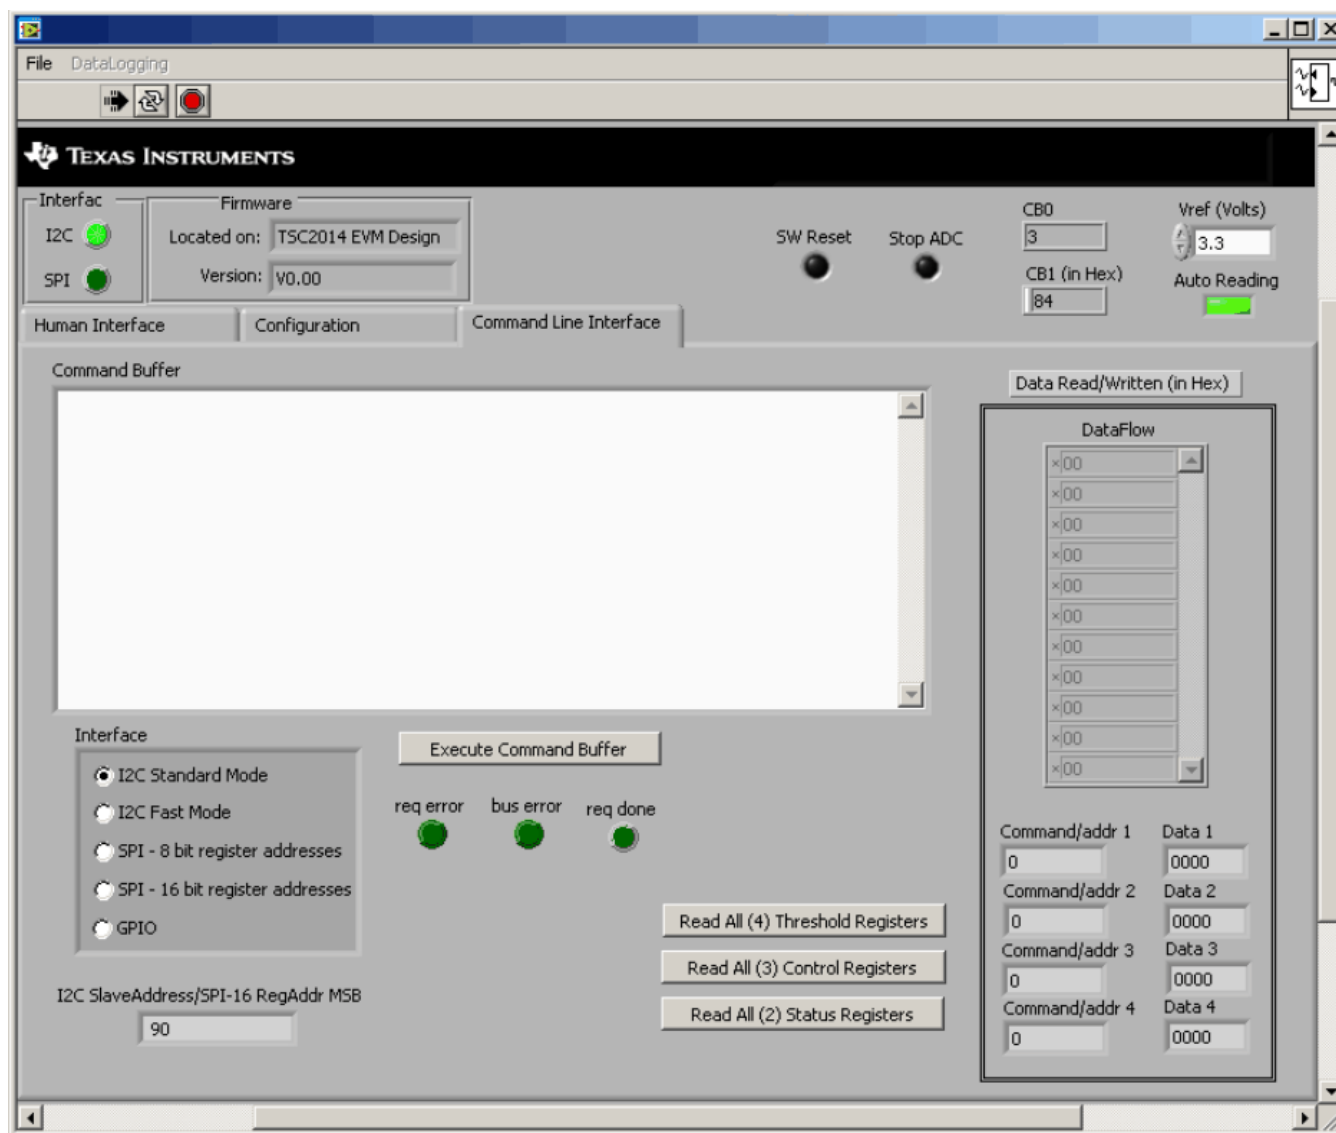
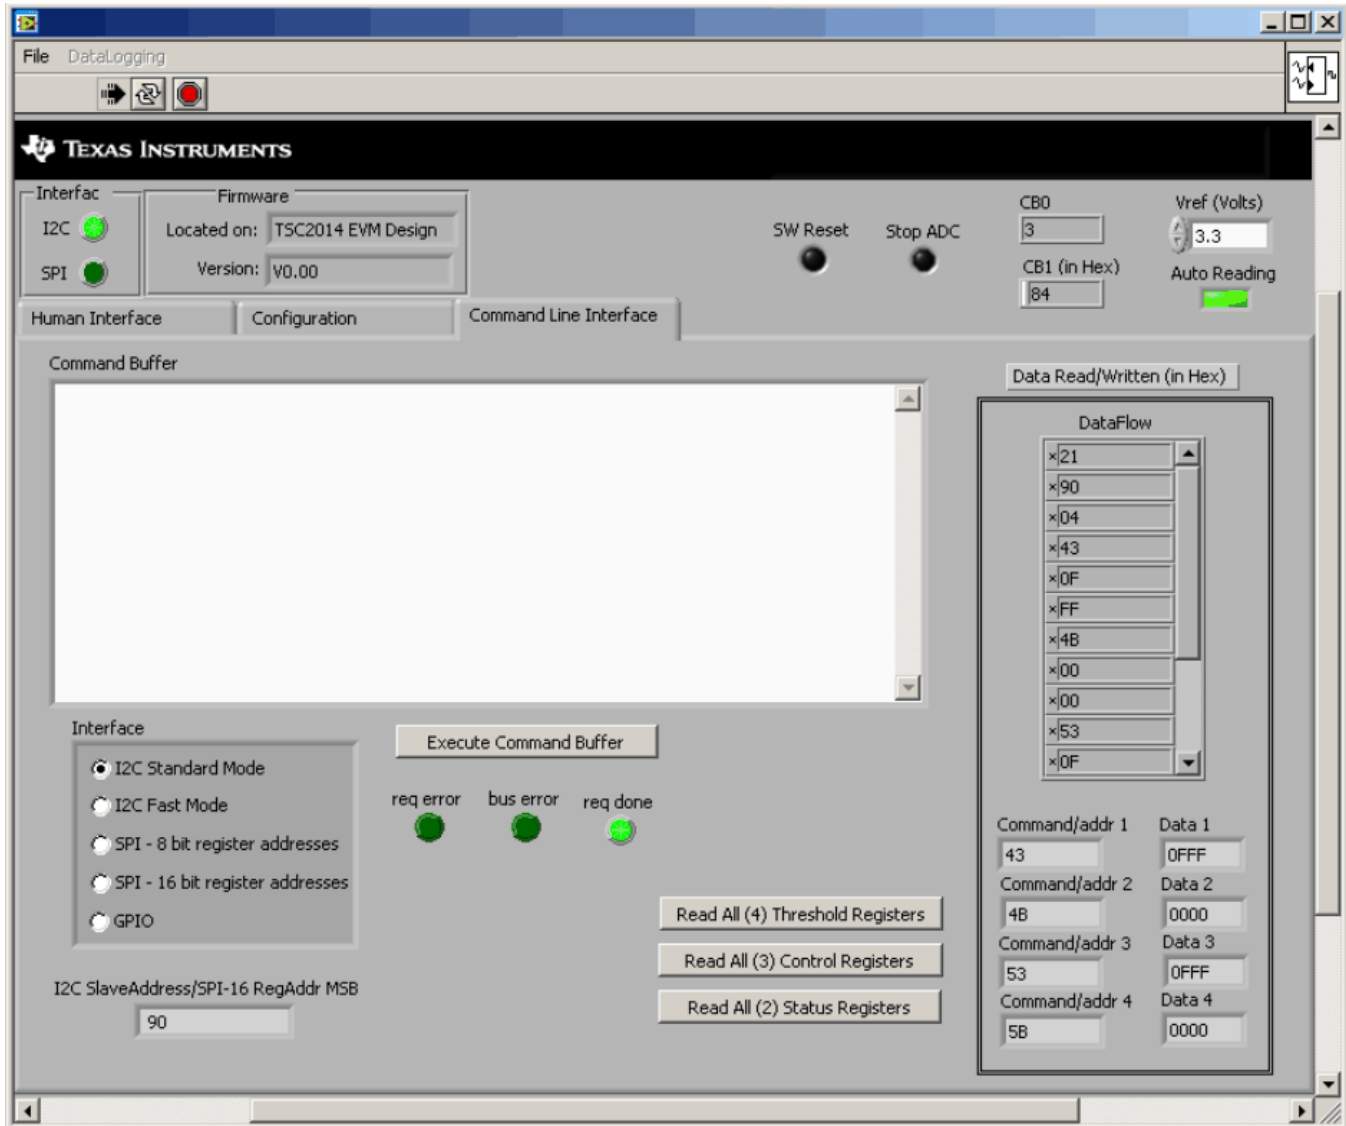

Figure 5. TSC2014EVM-PDK Software GUI: Command Line Interface Tab
Figure 6. TSC2014EVM-PDK Software GUI: Read All Threshold Registers Option
Clicking on the *Command Line Interface* tab brings up a screen similar to that shown in Figure 5, which provides a flexible way to read from and write to the TSC2014EVM by the use of scripts.
As Figure 6 shows, three read buttons reveal the contents of the Threshold, Control, and Status Registers of the TSC2014; these contents are also displayed in the *Data Read/Written* section of the screen. The data flow shows at the top of the screen, and is interpreted and listed correspondingly on the button. For example, Figure 5 shows a read result of the four TSC2014 threshold registers after clicking on the **Read All (4) Threshold Registers** button.